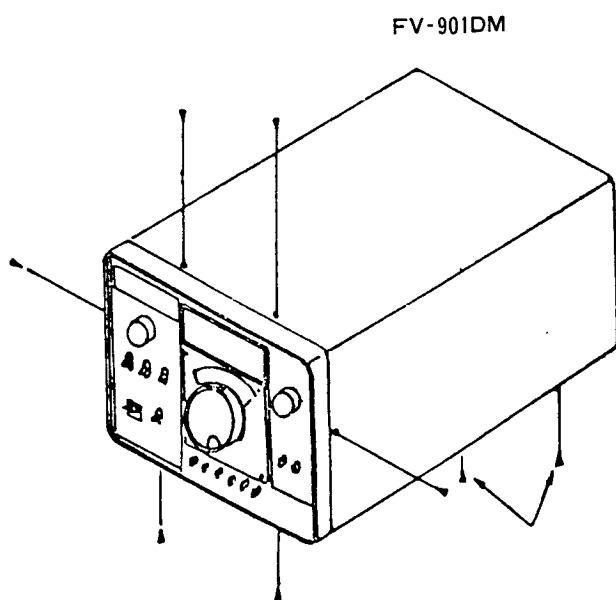

Figure 13.
- (1) Remove the top and bottom covers of the FV-901DM, removing the screws as shown in Figure 13.